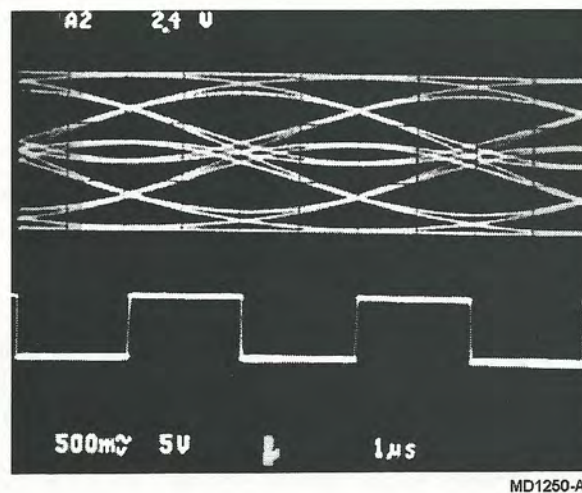

Figure 5-11
4. Adjust R63 SAMPLE CLOCK PHASE ADJ until the falling edge of the clock waveform on CH2 aligns with the center of the eye of the CH1 waveform as shown in Figure 5-11. If this adjustment runs out of range, switch the position of E6 DSP CLK PHASE.